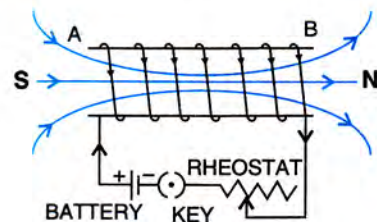

Fig. 10.16
- (a) Fig. 10.16 shows the magnetic field lines inside and outside, due to a current carrying solenoid. The direction of current in the solenoid at the face A is **clockwise**, so it will have the **south polarity (S)** and the face B of solenoid at which the current is